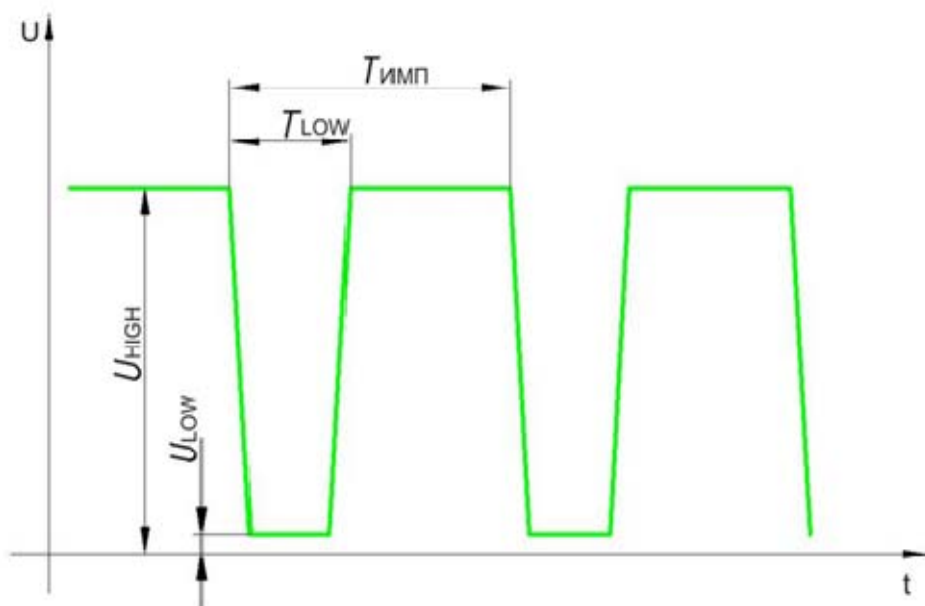

Figure 2. Output signal of EUROSENS X P Z V(also see tables 10,11).
Flow meter with non-standard pulse (model P) has an output pulse signal shown in Figure 2.
The type and characteristics of the output signals EUROSENS X P (PN) ZV are shown in Figures 2, 3 and tables 10, 11 (see below). Characteristics of the output signals EUROSENS X RS ZV match the specified item in the digital protocols.